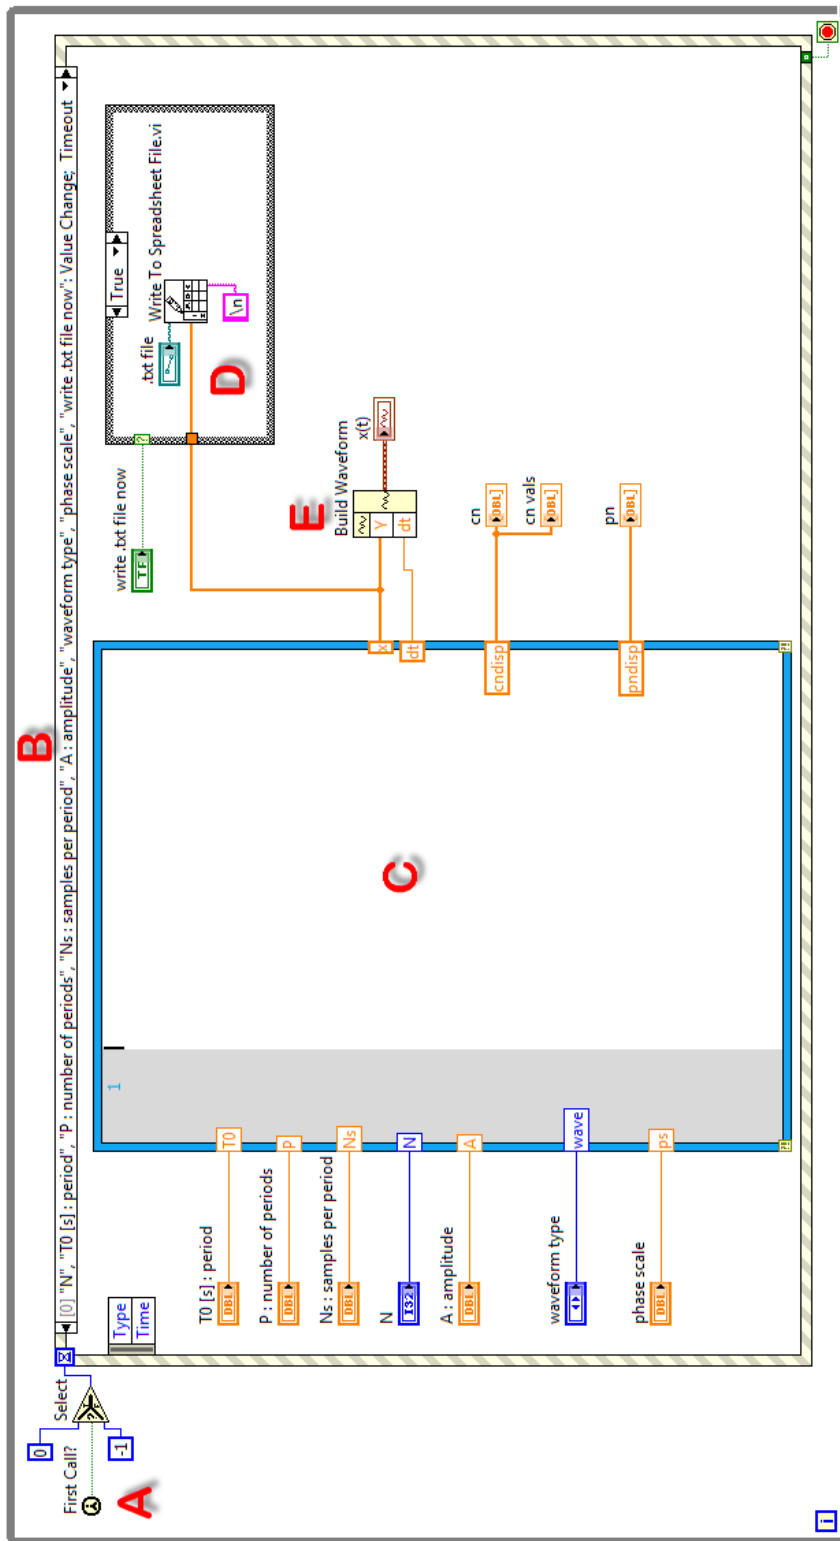

Figure 5.2: Block diagram of the Fourier series demonstrator application.
Figure 5.2 on page 51 shows the block diagram of the Fourier series demonstrator LabVIEW application you will create in this project. A MathScript node contains all of the Fourier series calculations. The event-structure and while-loop combination executes the MathScript node only when a value changes on a front panel control; refer to the tutorial video <http://youtu.be/eGlvOiqYVxg> for more details on event structures. The block diagram also includes a feature to write the text file representation of $x(t)$ that can be loaded directly into the ELVISmx Arbitrary Waveform Generator.
► Read through these construction tips for the block diagram and then refer back to this step as needed while you construct the application; each tip refers to the letter indicator on Figure 5.2 on page 51: